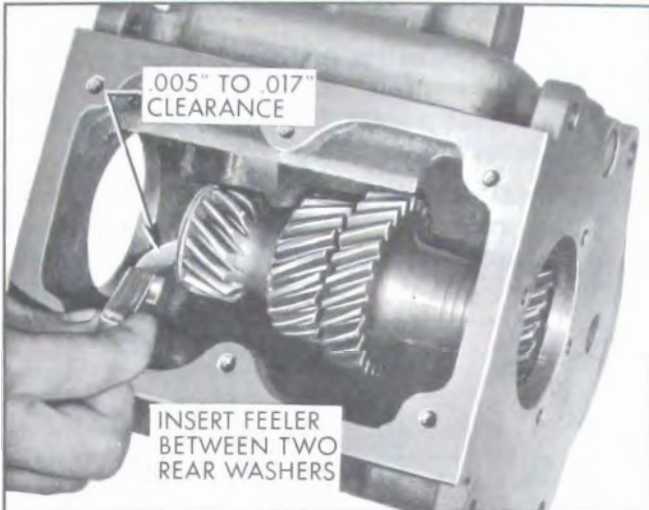

Figure 4-29—Checking End Clearance of Counter Gear
5. Check end clearance of counter gear using feeler gauge between two rear thrust washers. Limits are .005" - .017". Replace thrust washers if clearance is found to be excessive. See Figure 4-29.